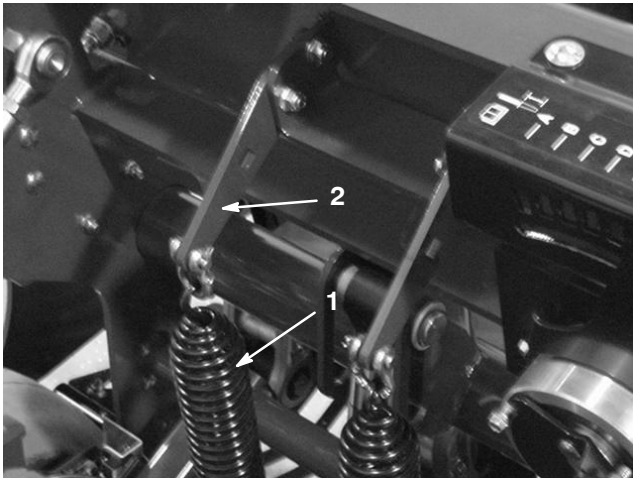

Figure 37
1. Loosen the carriage bolt nuts securing the spring brackets to the coring head. Do not remove (Fig. 37).